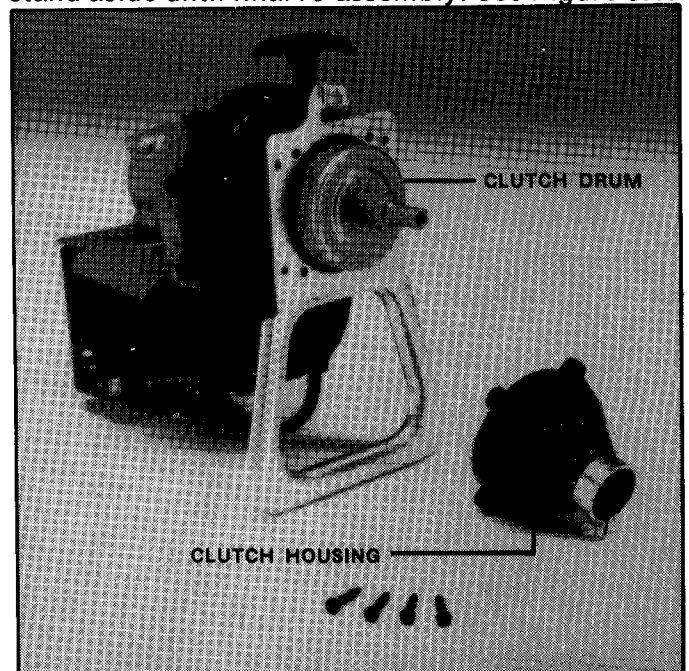

FIGURE 6.1
6.1 Remove the four screws from the clutch housing. Leave the loose screws inserted into the housing and set the clutch housing and engine stand aside until final re-assembly. See Figure 6.1.